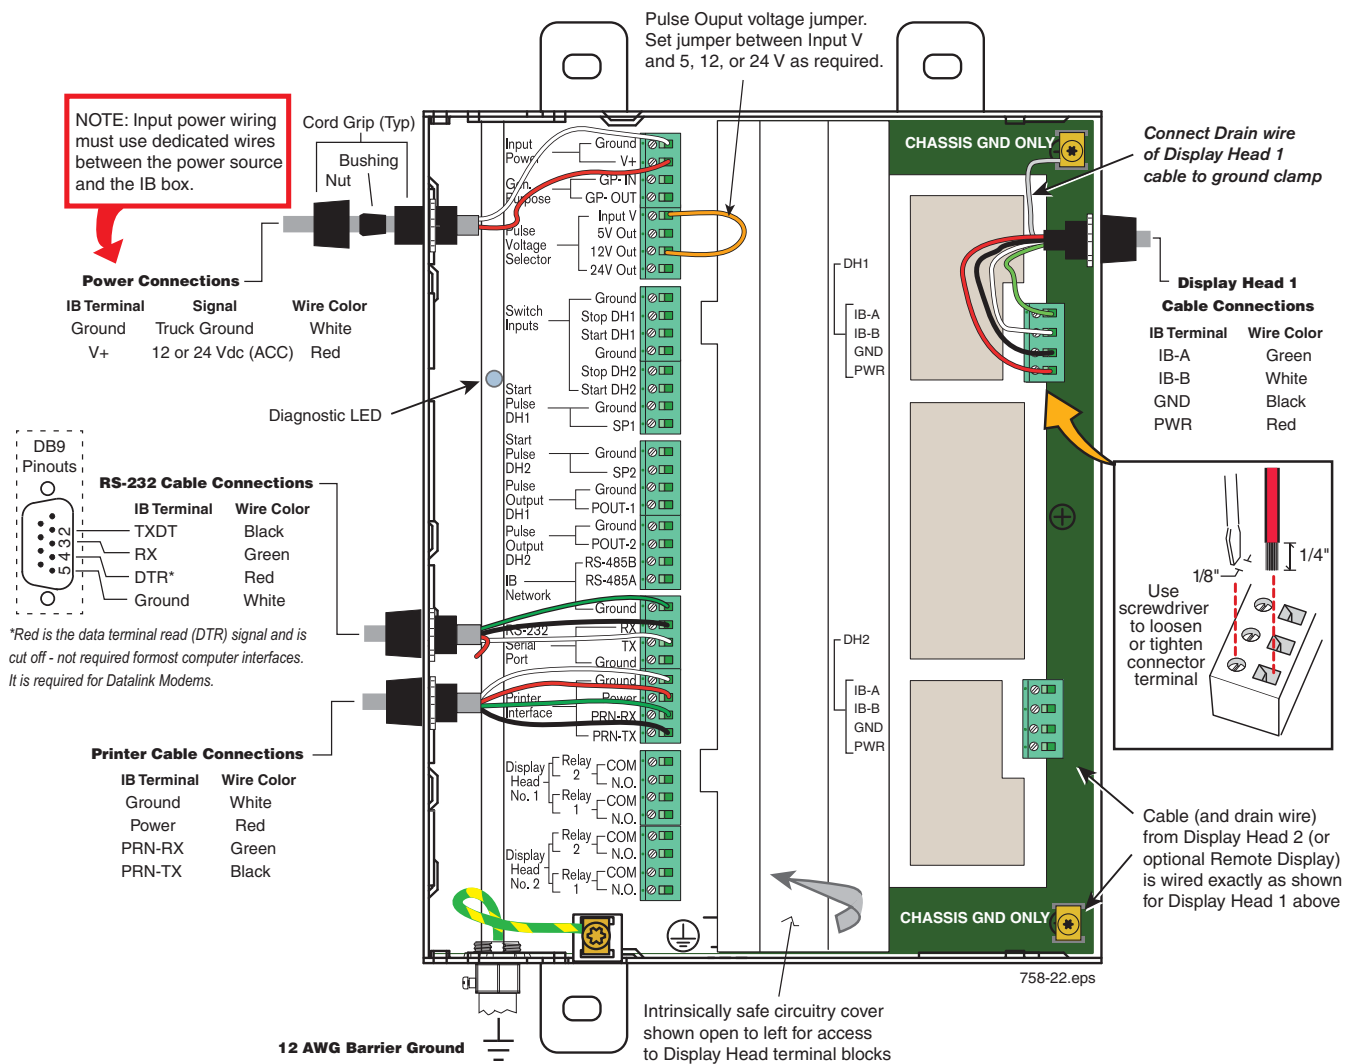

Figure 24. Wiring The Interconnection Box
2. Table 7 and Figure 24 show IB Power Side terminal wiring connections. Use Power Side knockouts (left side of IB) for all cables attaching to this terminal block.
4. Table 8 and Figure 24 show the IB intrinsically safe terminal wiring connections. Use Intrinsically Safe Side knockouts (right side of IB under cover) for Display Head cable entries. The drain wire in each Display Head cable must be connected to the adjacent chassis ground clamp.
Attach the four wires of the printer power/data cable to the appropriate terminals of the Power Side terminal block in the IB (Figure 24 on page 32) and the DB-25 connector and the round power connector to the appropriate connectors on the rear of the printer